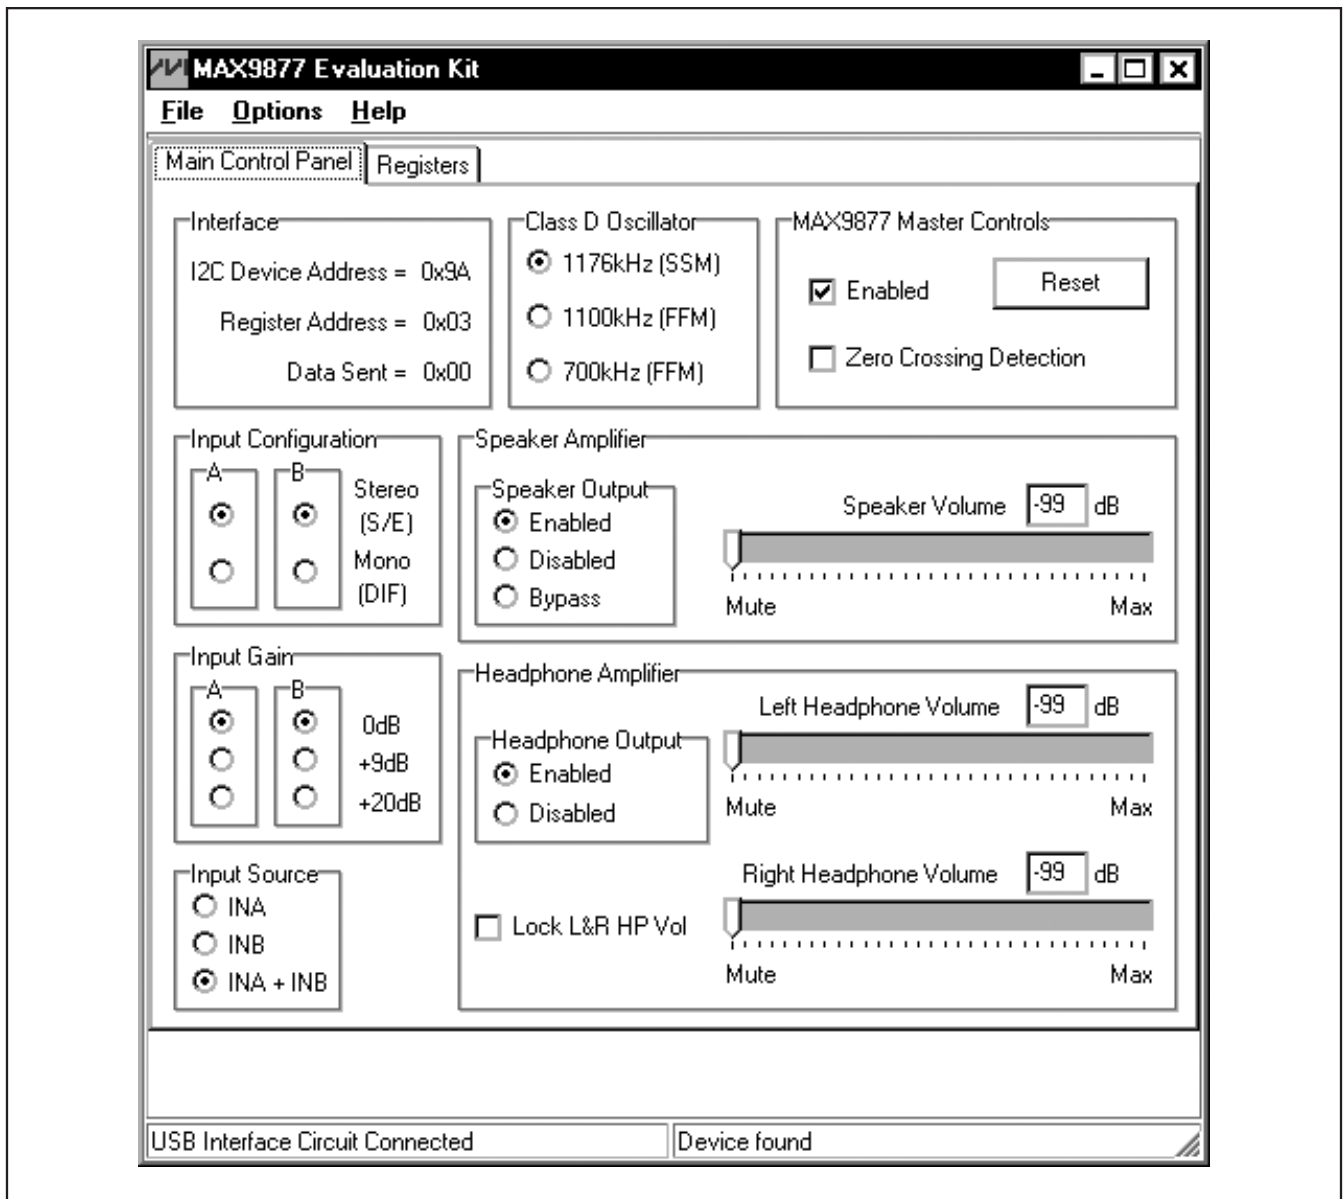
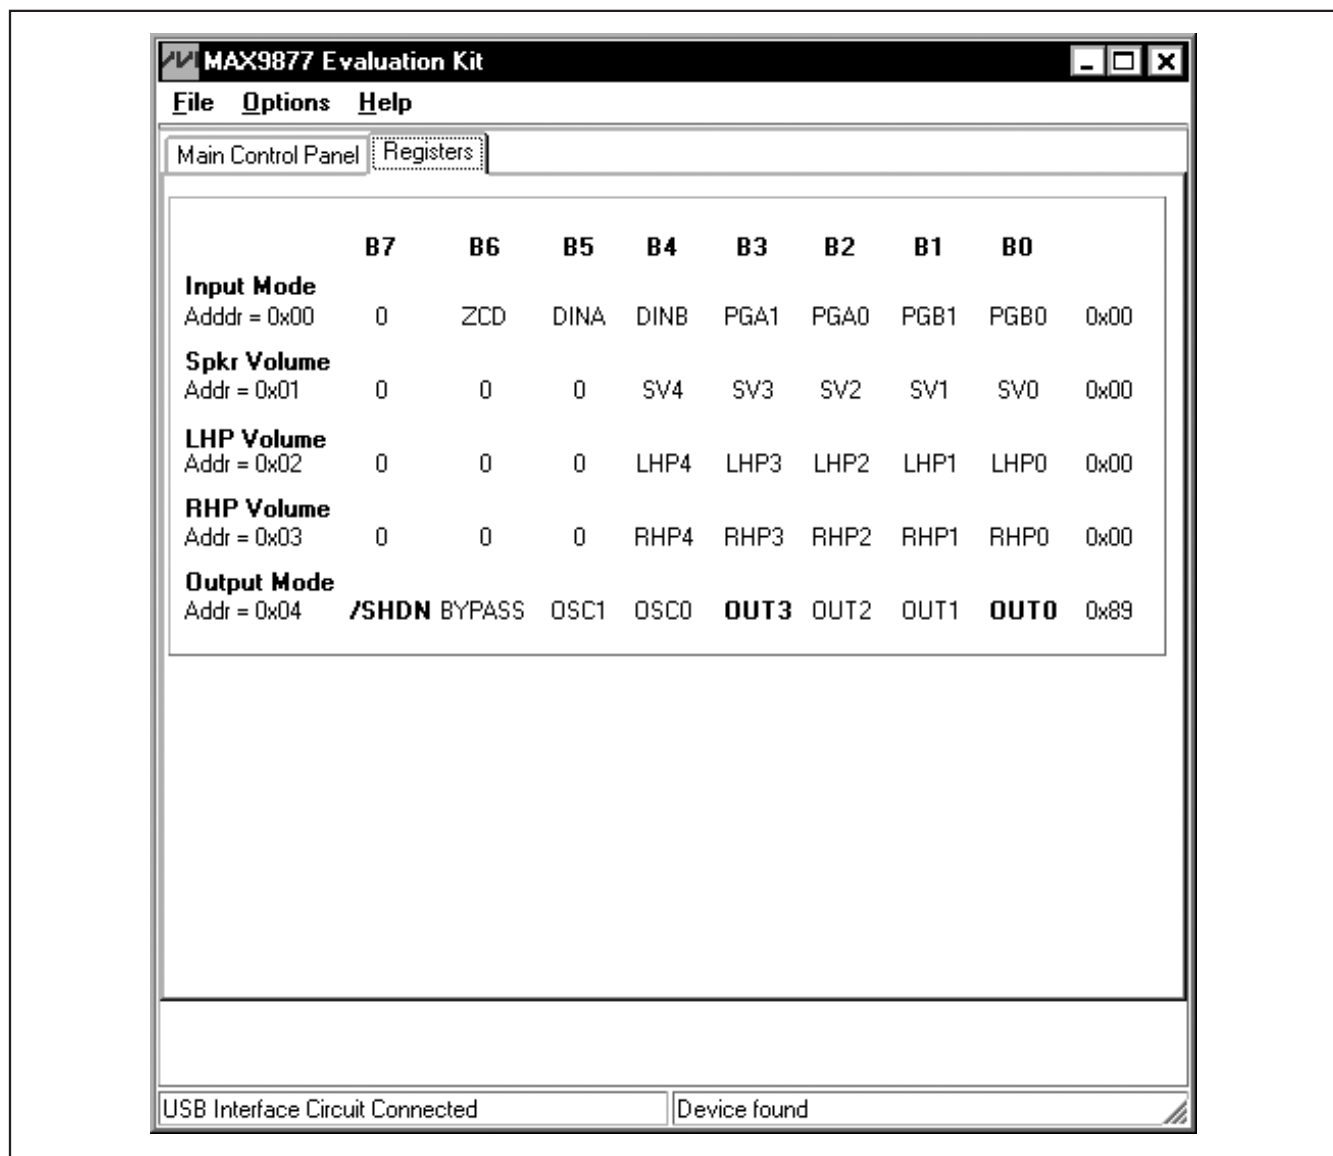
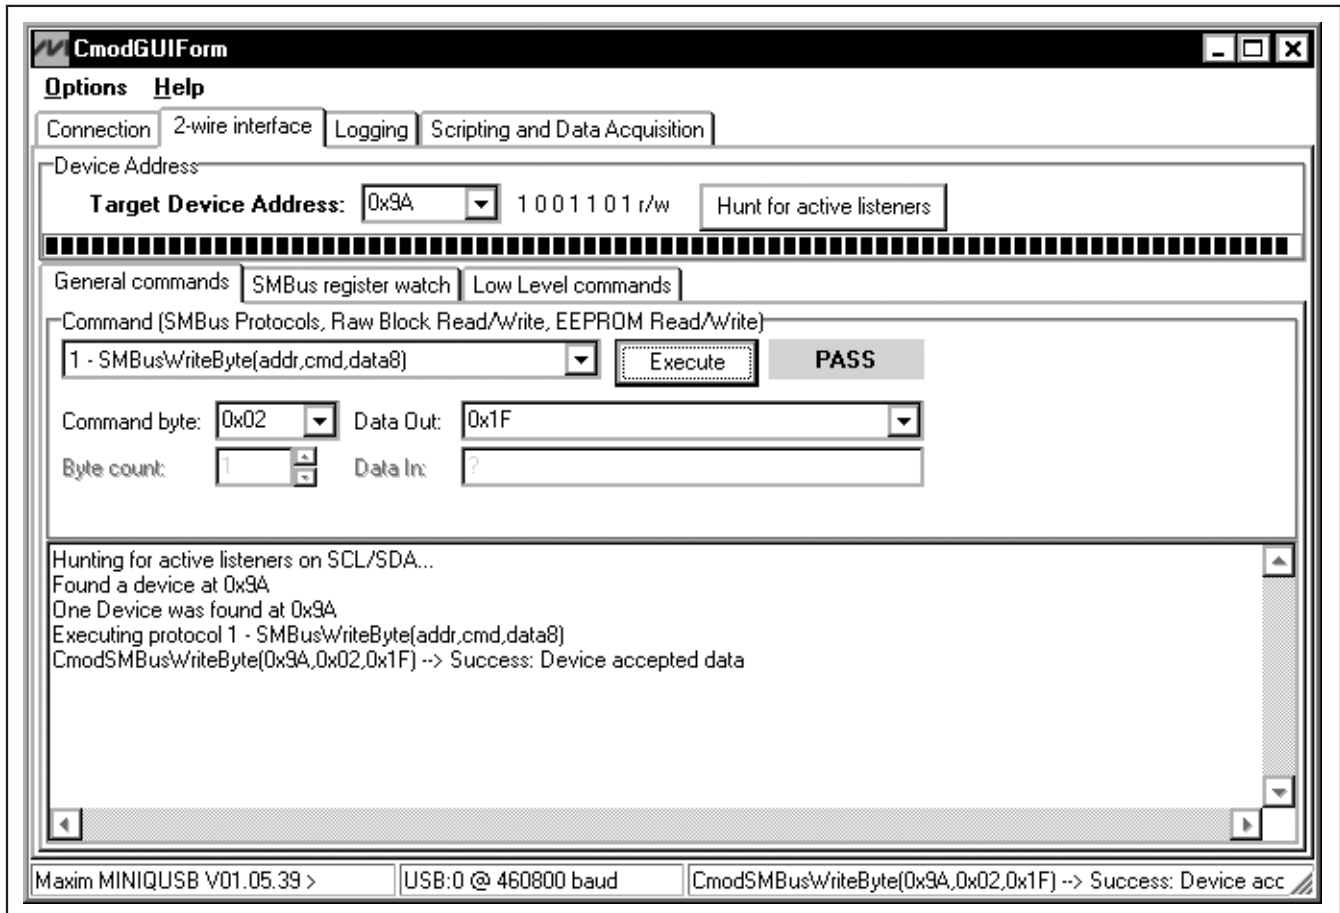

Figure 1. MAX9877 Evaluation Kit Software Main Control Panel
Figure 2. MAX9877 Evaluation Kit Software Read-Only Registers
Figure 4. Simple Low-Level 2-Wire Interface
- 16) Observe as the program automatically detects the address of the MAX9877 and starts the main program. After successful connection, the EV kit software main window appears in the upper-left corner of the window, as shown in Figure 1.
The MAX9877 EV kit software GUI screenshots (Figures 1 and 2) are windows that provide a convenient means to control the MAX9877. Figure 1 is the MAX9877 EV kit software's main control panel, while Figure 2 is the registers read-only panel. Use the mouse or press the tab key to navigate through the GUI controls. The correct I²C write operation is generated to update the MAX9877 internal memory registers when any of these controls are executed.
The MAX9877 EV kit software **Main Control Panel** tab sheet (Figure 1) divides the EV kit functions into logical blocks. The **Interface** group box displays U1 **I²C Device Address**, **Register Address**, and **Data Sent** indicators. This data is used to confirm proper device operation. The **Class D Oscillator** group box controls and displays the oscillator frequency. The **MAX9877 Master Controls** group box provides the main controls for the MAX9877 IC. The **Input Configuration**, **Input Gain**, and **Input Source** group boxes configure the
The MAX9877 EV kit software **Registers** tab sheet (Figure 2) displays the logic-level status for each individual register's data bits. A data bit shown in **bold** indicates a logic-high, while nonbold data bits indicate a logic-low. Refer to the MAX9877 IC data sheet for detailed information on registers and data bits.
The software's **Class D Oscillator** group (Figure 1) selects the frequency modulation scheme for the MAX9877 EV kit. The MAX9877's Class D oscillator can operate in one of three frequency modulation modes, **1176kHz (SSM)** spread-spectrum modulation, **1100kHz (FFM)** fixed-frequency modulation, or **700kHz (FFM)**.
There are two methods for communicating with the MAX9877 EV kit: through the **Main Control Panel** (Figure 1) or by using low-level SMBus™ commands available through the **2-wire interface** (Figure 4) utility from the main program's **Options | Interface (Advanced Users)** main menu. A window is displayed that allows I²C operations, such as **SMBusReadByte**, and **SMBusWriteByte**. Do not use the **SMBusReadByte** operation because the MAX9877 does not send data to the master.
Note: The I²C dialog boxes accept numeric data in binary, decimal, or hexadecimal. Hexadecimal numbers must be prefixed by \$ or 0x. Binary numbers must be exactly eight binary digits. See Figure 4 for an example of this tool. Figure 4 shows a simple SMBus write-byte operation using the included **2-wire interface** diagnostics tool. In this example, the software is writing data **0x1F** to the register address **0x01** (speaker volume) to the device with the **Target Device Address 0x9A**. The data sequence sets the MAX9877 speaker volume to 0dB (max).